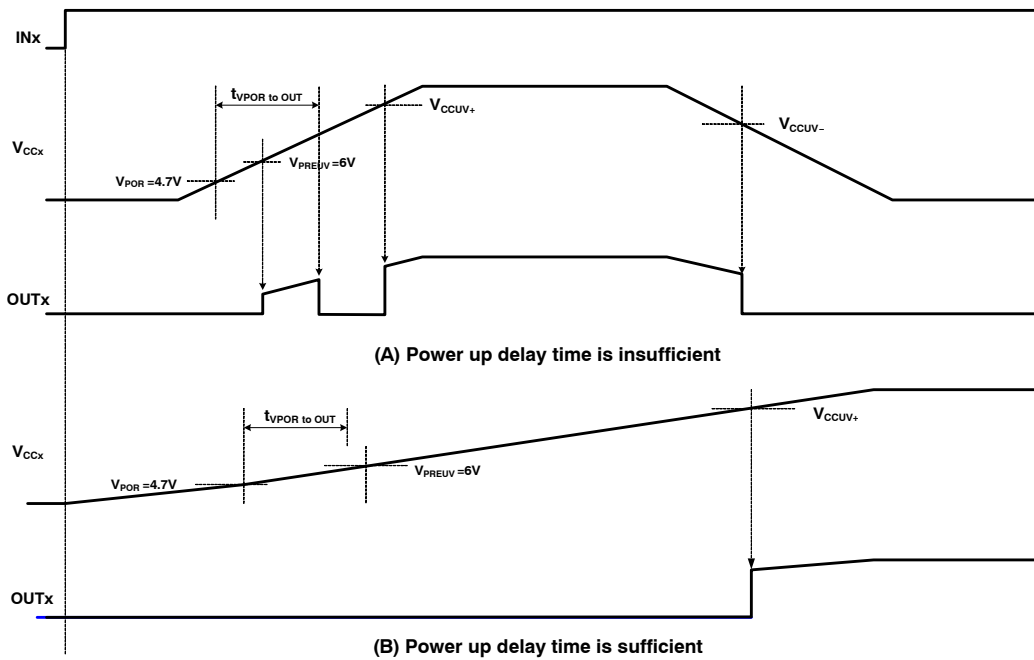

Figure 23. V_{CC} Power-up Delay Time
Startup time is important factor in designing a circuit that is both energy efficient and fast for the driver used. So that minimal startup time is required. However, the startup time is limited by the power up delay, defined as the time the driver is enabled to the first gate output. As with many circuits, the minimal power up delay for the driver used, and can be found in the datasheet and it is defined as $t_{VPOR\ to\ OUT}$. For example, the **onsemi**'s isolated gate driver has a V_{CC} power-up delay time of typically 18 μ s. It recommends allowing some margin before driving input signals, to ensure the driver V_{CC} bias supplies are fully activated. Especially, NCP51561 and NCP51563 are recommended that the V_{CC} power-up delay time allow for proper margin. For example, the V_{CC} power-up time is required at least 30 μ s or above during initial start-up after any V_{CC} POR as shown in Figure 23 (B). If the V_{CCX} power up slope is such that the V_{CCX} rising time is less than $t_{VPOR\ to\ OUT}$ and there are PWM signals on IN_x pins, the outputs will start switching before V_{CC} reached its actual UVLO threshold whenever the V_{CCX} supply cross above the preset UVLO threshold (e.g., $V_{CC}=6-V$) and then stop till UVLO level is reached and experimental result as shown in Figure 22.